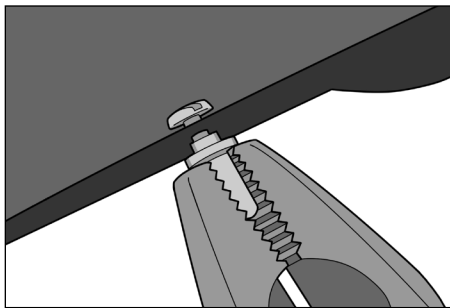

Fig. 14
3. Using the flat-jaw Pliers, grasp the Bos Pin on the flat sides. (Fig. 14).